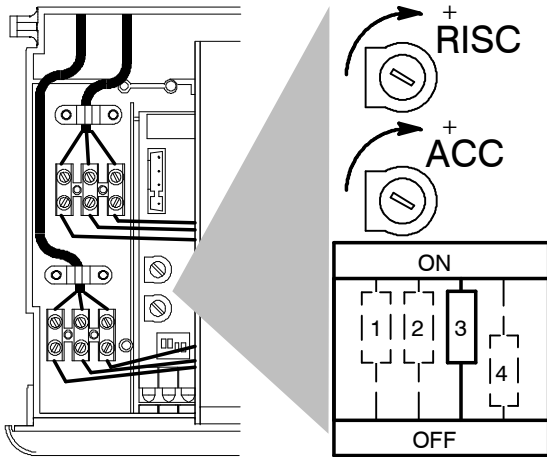

Fig. 7.7
- 14 Check the ignition gas pressure by setting dip-switch "3" (Fig. 7.7) to the OFF position. Compare the value on the gauge with the value indicated in the sections 4.5 or 4.6 (gas pressures at the burner), accordingly with the model of boiler installed.
To adjust the ignition gas pressure, set dip-switch "3" (Fig. 7.7) to the OFF position and adjust potentiometer marked "ACC" with a screwdriver until correct ignition gas pressure is obtained.
With the boiler operating in c.h. mode, use a suitable screwdriver to turn the adjustment potentiometer marked "RISC" (Fig. 7.7).